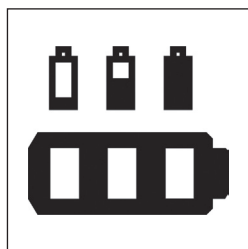

Figure 9 Battery indicator on hand control.
- There is a battery indication on the hand control (See figure 9).